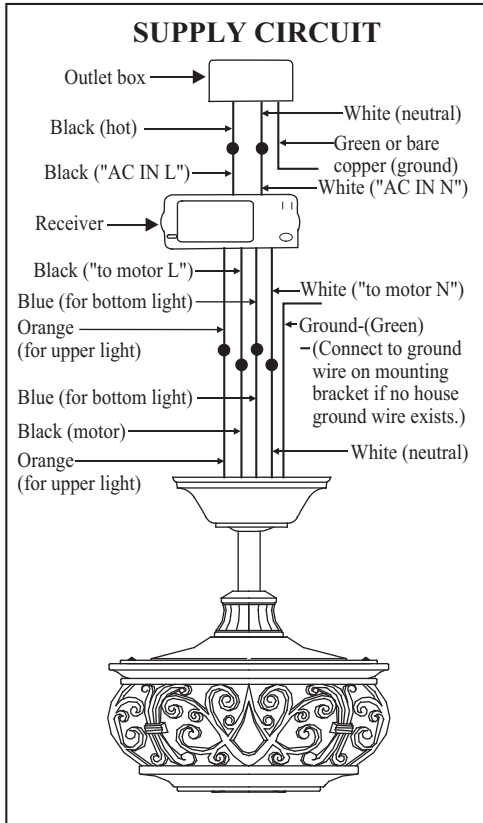

Figure 11
2. (Figure 11) Motor to receiver electrical connections: Connect the black wire from the fan to black wire marked "TO MOTOR L". Connect the white wire from the fan to the white wire marked "TO MOTOR N" from the receiver. Connect the blue wire from the fan to the blue wire marked "For bottom Light" from the receiver. Connect the orange wire from fan to the orange wire from receiver marked "For Upper Light". Secure wire from fan to the
3. (Figure 11) Receiver to House Supply Wires Electrical Connections: Connect the black (hot) wire from the ceiling to the black wire marked "AC in L" from the receiver. Connect the white (neutral) wire from the ceiling to the white wire marked "AC in N" from the Receiver. Secure the wire connections with the plastic wire nuts provided.
4. (Figure 11) If your outlet box has a ground wire (green or bare copper), connect it to the fan ground wires; otherwise connect the hanging bracket ground wire to the mounting bracket. Secure the wire connection with a plastic nut provided. After connecting the wires spread them apart so that the green and white wires are on one side of the outlet box and black and blue wires are on the other side. Carefully tuck the wire connections up into the outlet box.